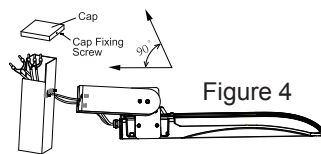

Figure 4
2. Put the installation bracket on the pole in the desired position and use the screws and nuts to tighten the light and adjust the light angle. (Figure 4)
3. Use the local wiring to connect the product wires. Plug the wire into the poles, cover the pole with a protective cover and tighten the side screws. (Figure 4)